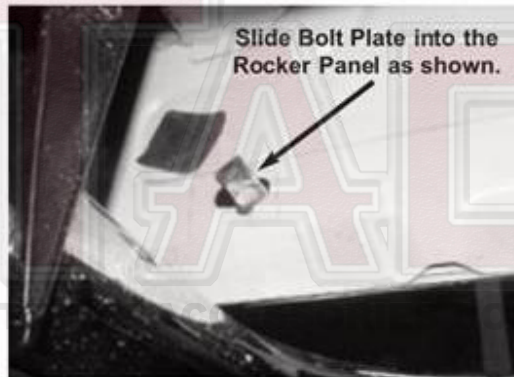

Figure 3 - Rear Bolt Plate
Select the front Support Bracket with the angled end. Remove the sealing tape on the inner body panel to uncover the mounting location. Partially thread (1) 9mm Plastic Retainer onto a 10mm Bolt Plate. Insert the Bolt Plate into the mounting hole and thread the Plastic Retainer down until it is flush against the body panel, **(Figure 3)**. **NOTE:** The
5. Next, select the rear Support Bracket (90-degree bend on one end). **NOTE:** The rear Support Bracket is not used on the Regular Cab models. Remove the sealing tape on the inner body panel to uncover the mounting location. Partially thread (1) 9mm Plastic Retainer onto a 10mm Bolt Plate. Insert the Bolt Plate into the mounting hole and thread the Plastic Retainer down until it is flush against the body panel, **(Figure 3)**. **NOTE;** The Plastic Retainer is designed to prevent the Bolt Plate from falling into the body cavity when properly installed. Secure the Support Bracket to the Bolt Plate with (1) 10mm Flat Washer, (1) 10mm Lock Washer and (1) 10mm Hex Nut. Attach the Support Bracket to the front-facing side of the Mounting Bracket with (1) 10mm x 40mm Hex Bolt, (2) 10mm Flat Washers, (1) 10mm Lock Washer and (1) 10mm Hex Nut. Snug but do not tighten hardware at this time.
6. Carefully unwrap the Sidebars and select the driver sidebar. Line up the end of the Sidebar with the front Mounting Bracket and secure with (1) 1/2" x 2" Hex Bolt, (1) 1/2" Lock washer and (1) 1/2" Flat Washer. Do not tighten hardware at this time. Repeat this step to bolt the Sidebar to the rear Mounting Bracket.